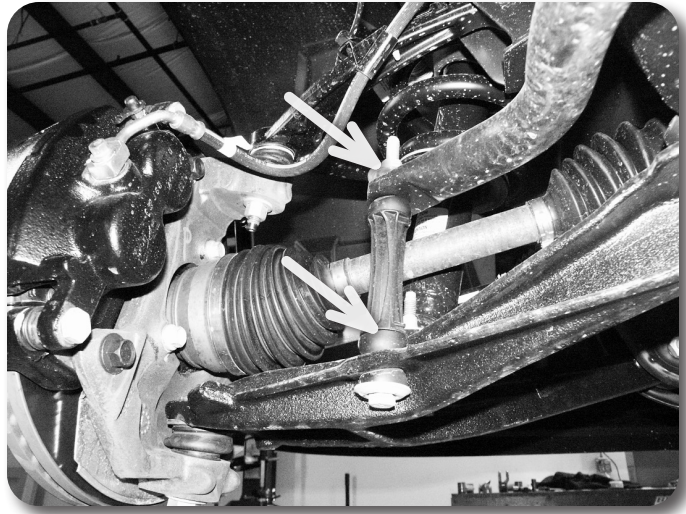

Figure 6
14. Remove the sway bar links from the sway bar and the lower control arm Figure 6.